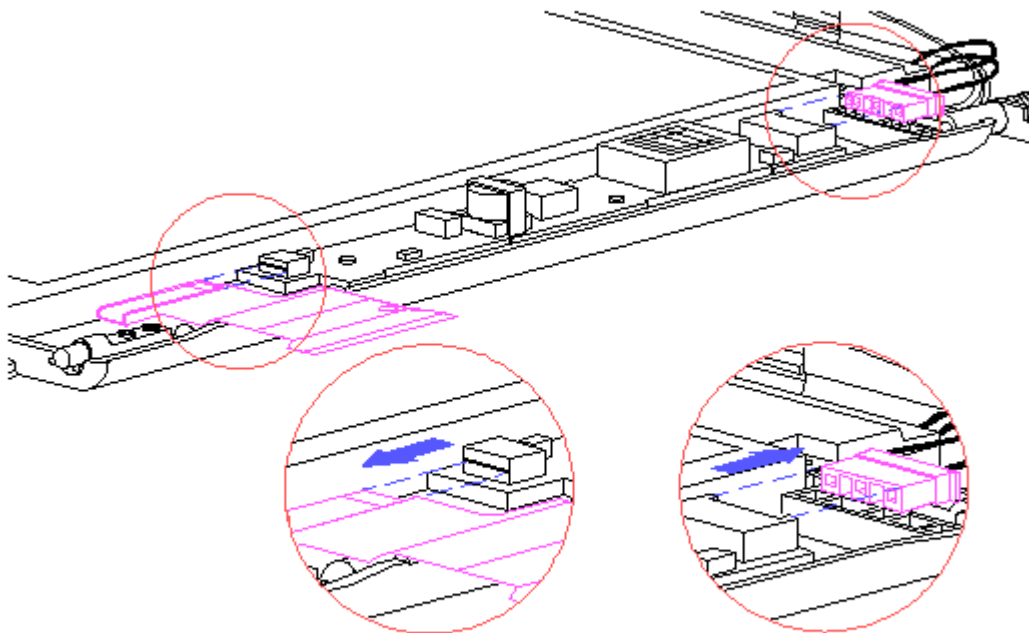

Figure 3-16. Unplugging the Display Cable and Backlight Cable from the Inverter Board
2. Remove the display cable and the backlight cable from the display inverter board in the bottom of the display enclosure by gently pulling the cables toward you, then unplugging from the inverter board LIF connector (Figure 3-16).